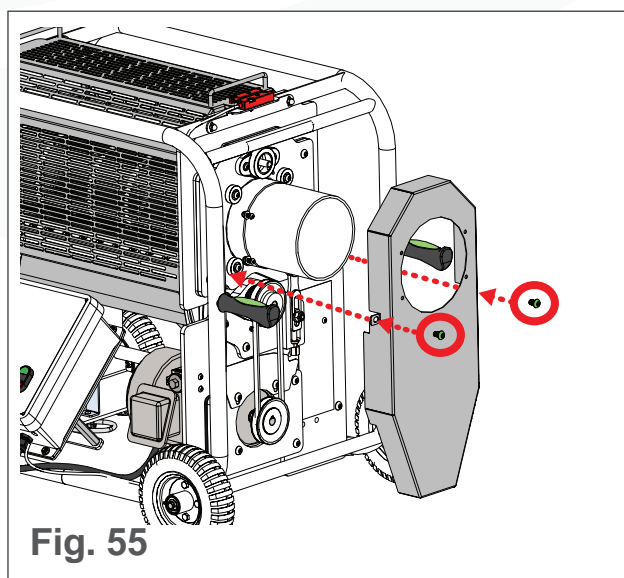

Fig. 55
14. Place the blade belt cover over the blade belt (see Fig. 55).
15. Insert and tighten the blade belt cover screws (see Fig. 55).